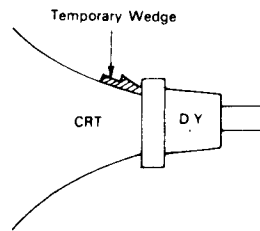

FIGURE 5
5. Move the two Purity Magnets and bring the Magenta belt to the mechanical center of the screen (See Fig. 5). The vertical center position should be set VRS to $-5/64$ " (-2mm) as shown in Fig. 6.
11. Insert the temporary wedge as shown in Fig. 5 and adjust the angle of Deflection Yoke.